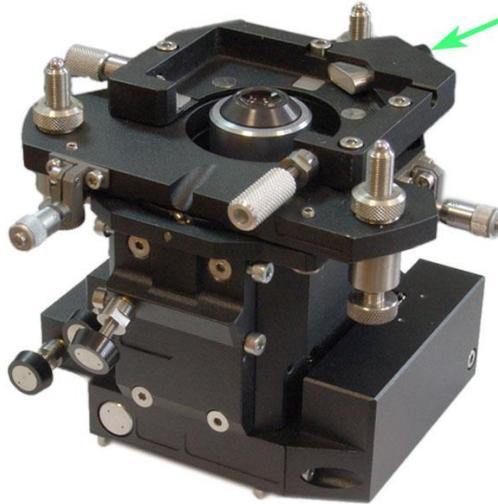

Fig. 9-4. Measuring head
2. Pull the clamp (see Fig. 9-4).